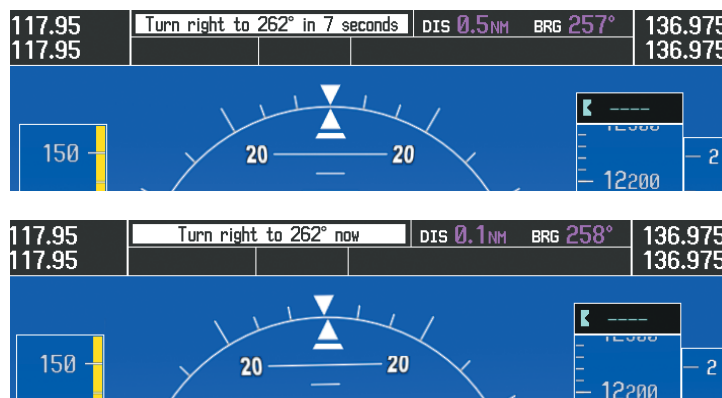

Figure 5-113 Turn to Intercept V244
- 8) At SLN, Victor Airway 244 (V244) is intercepted. Turn prompts are displayed in the PFD Navigation Status Box as seen in Figure 5-113.